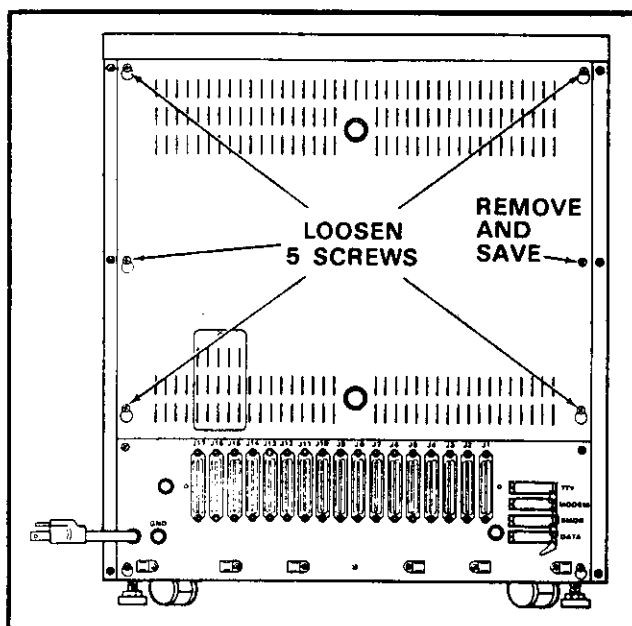

FIGURE 3—FCEC REAR COVER
- 1) Remove the FCEC rear cover (Figure 3).